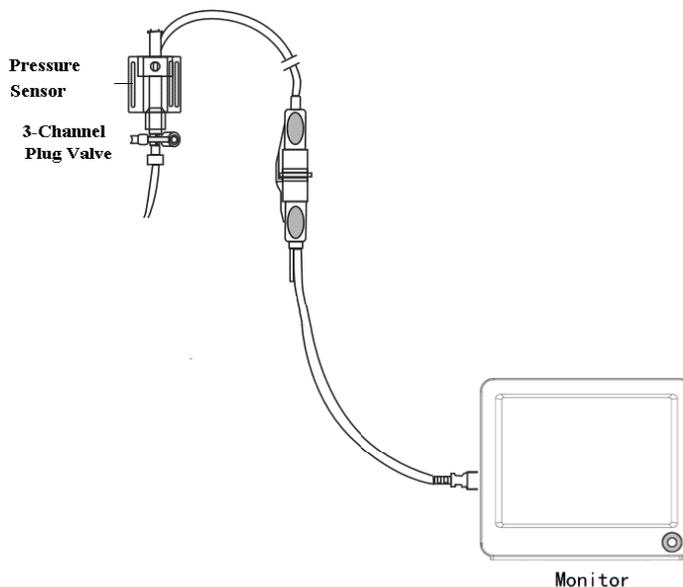

Figure 6.26 IBP Zero Calibration
1. Connect the pressure sensors, sensor cables and the monitor as referred to Figure 6.26.